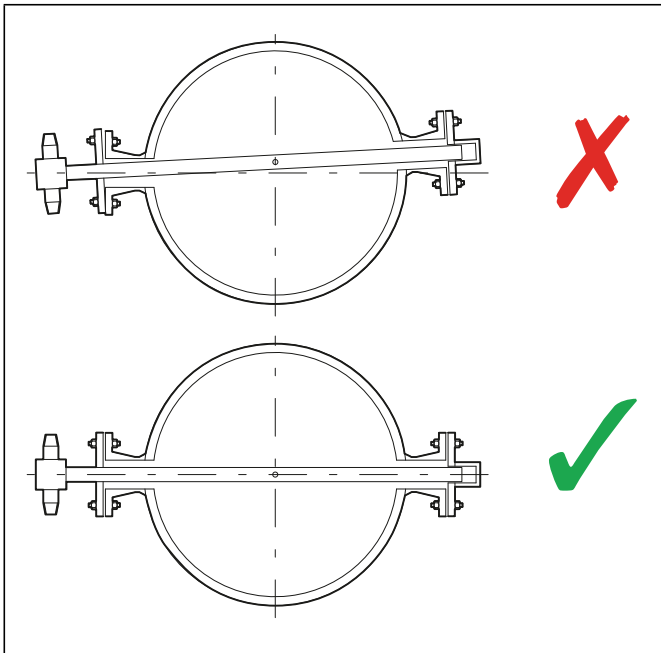
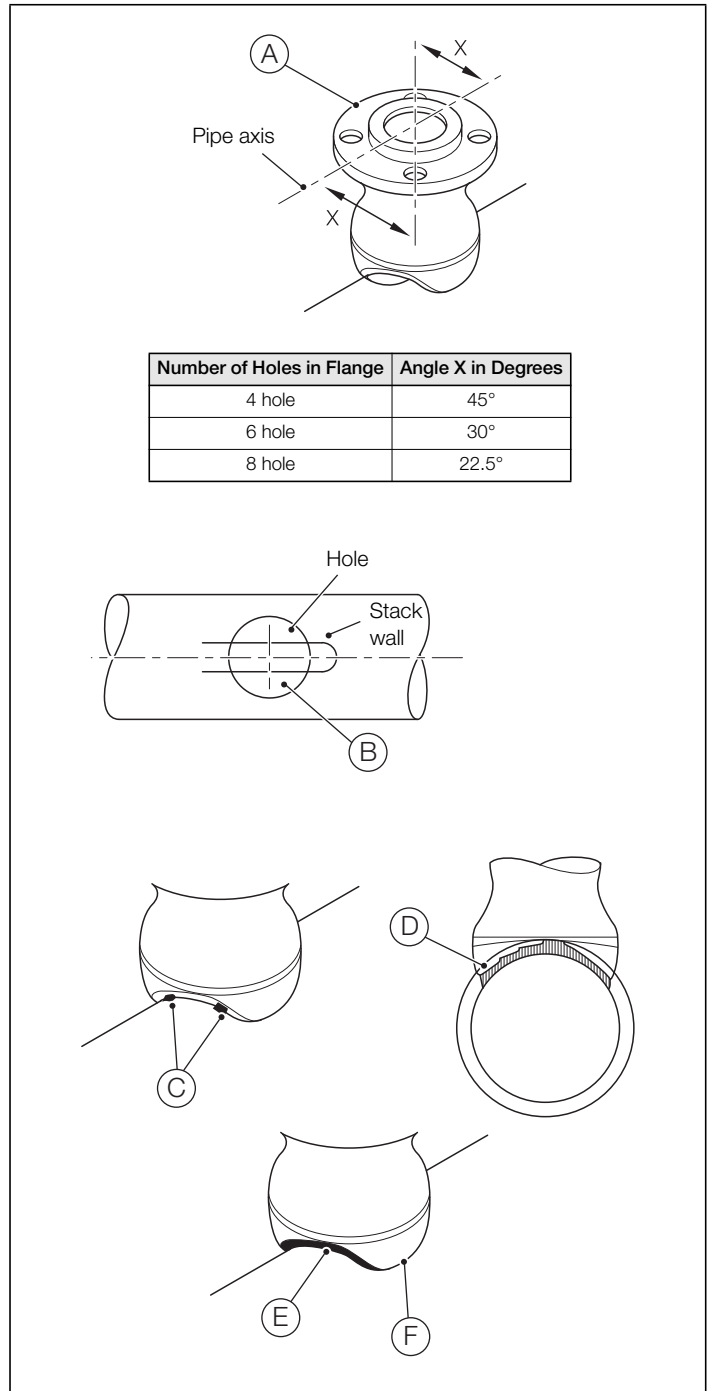

Fig. 1 TORBAR alignment (viewed from above)
Fig. 2 Flanged pipe fitting (stand-off) installation
Referring to Fig. 1, install TORBAR:
3. Referring to Fig. 2:
- a. Place the flanged pipe fitting (stand-off) (A) centrally over the drilled hole and align it correctly to the axis of the stack (angle X) according to the number of bolt holes in the flange. Ensure it is perpendicular to the stack axis and square to the stack plane.
- b. Use suitable spacers (B) to raise the flanged pipe fitting (stand-off) off the stack to establish the necessary gap for full-penetration welding.
- c. Tack-weld at four points (C) midway between the crotch and the skirt sections of the fitting.
- d. Using a suitable piece of pipe, ensure the flanged pipe fitting (stand-off) is correctly aligned with the stack (see Fig. 1, page 4) and concentric with the hole.
- e. Remove the spacers (B).
- f. Apply a full penetration root run completely around the base of the flanged pipe fitting (stand-off) at the clearly-defined weld preparation line (D).
- g. Make reinforcing welds at the crotch bevelled areas (E) of the flanged pipe fitting (stand-off) to provide maximum weld at the crotch tapering to a minimum at the skirt (F).